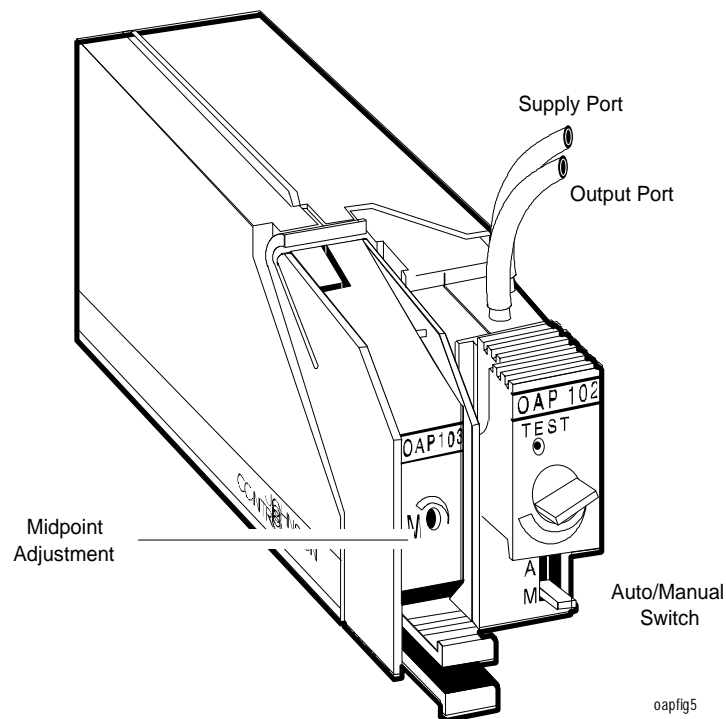

Figure 5: OAP103 Auto Module Installed with the OAP102 Manual Module
1. Move the Auto/Manual (A/M) Switch on the OAP102 to the “M” position for manual operation. Refer to Figure 5.
1. Move the Auto/Manual (A/M) switch on the OAP102 to the “M” position for manual operation. Refer to Figure 5.